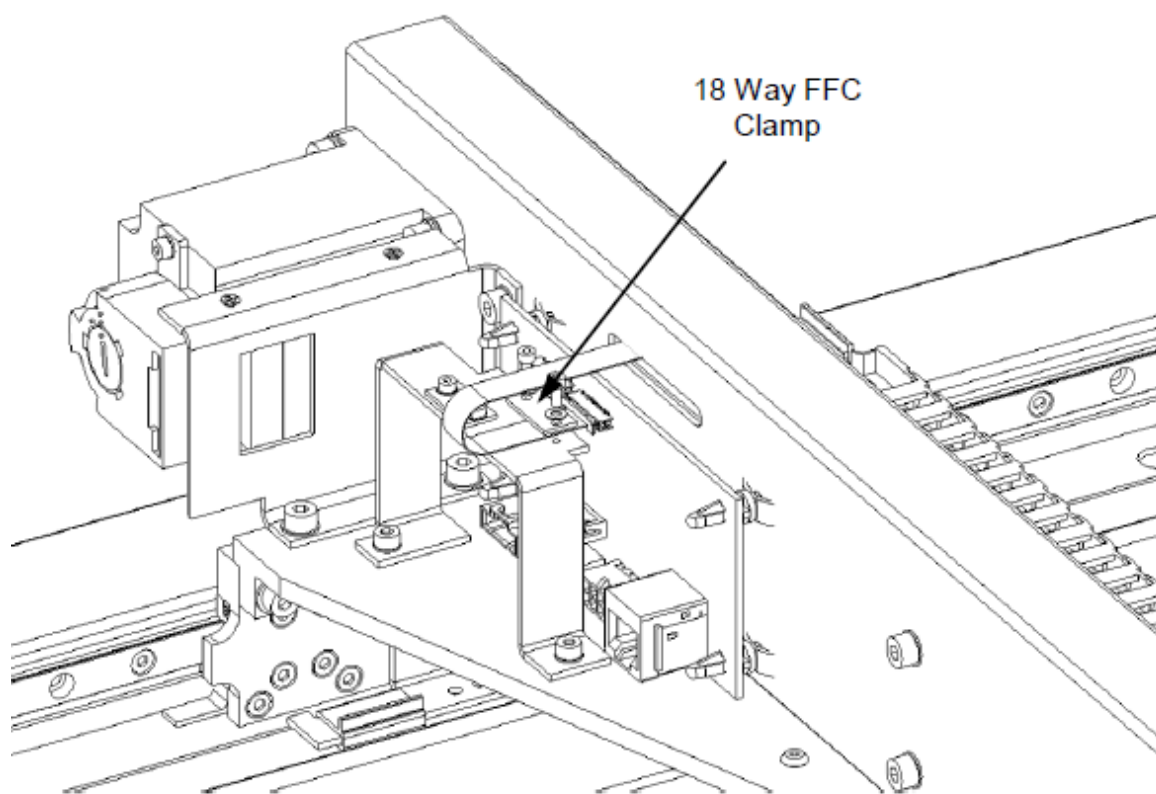

Figure U-3: 18 Way FFC Clamp
2. Remove the Z Drive Cable Chain from the Y Drive by removing the 18 way FFC Clamp (Figure U-3).